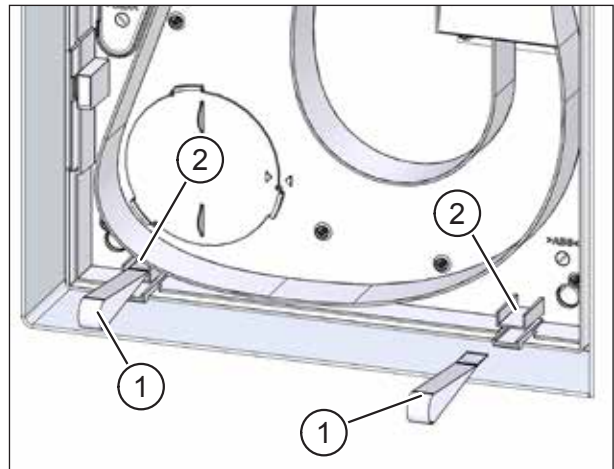

Fig. 50: Sticking on the unit cover pull-out straps
- ▶ Take the two unit cover pull-out straps (item 1 in Fig. 50) from the U² adapter kit.
- ▶ Stick the straps to the tops of the unit cover retainer (item 2 in Fig. 50).
For U² integrated into wall installation, make sure that the unit cover pull-out straps (item 1 in Fig. 50 on page 42) are hanging down beneath the unit cover.